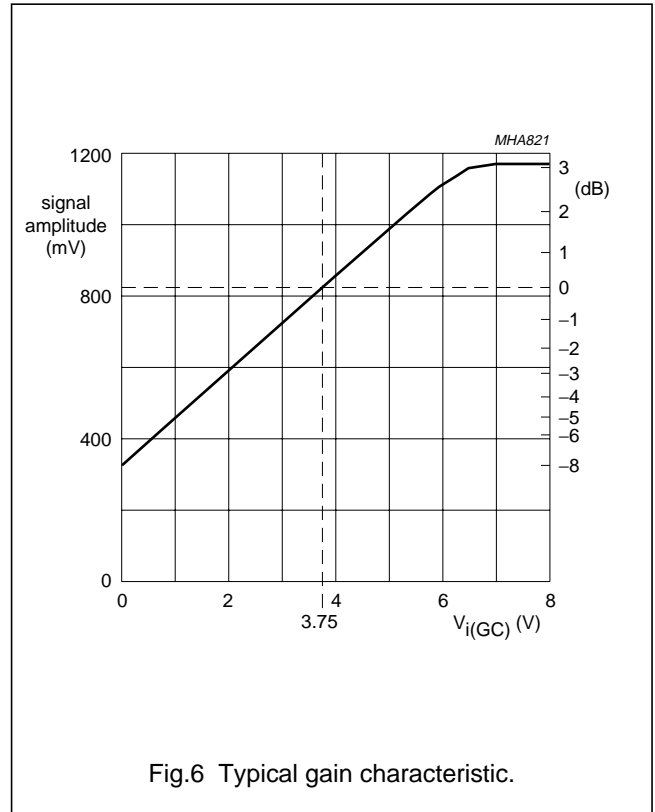

Fig.6 Typical gain characteristic.
- Linear control range is 1 to 6 V for $V_{i(GC)}$, independent of supply voltage. Typical gain characteristic see Fig.6.